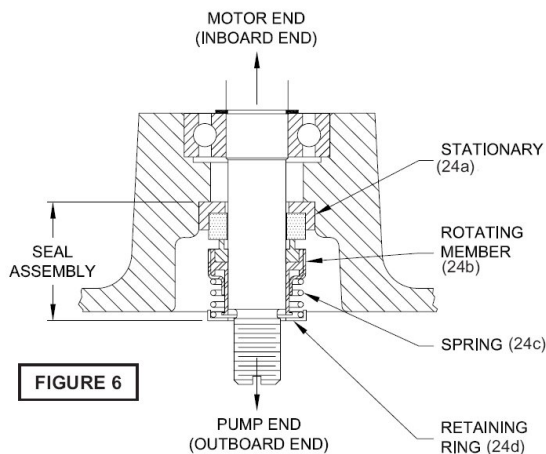
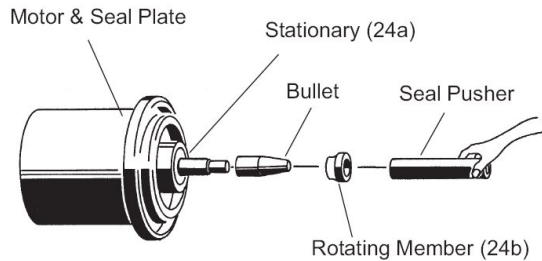

FIGURE 6
FIGURE 9
To expose shaft seal (24) for examination, disassemble volute and impeller as outlined in paragraph F-2.1. If further repair is required, remove retaining ring (24d), spring (24c) and rotating member (24b) from shaft (see Figures 6 & 7). Examine all seal parts and especially contact faces. Inspect seal for signs of wear such as uneven wear pattern on stationary members, chips and scratches on either seal face. **DO NOT** interchange seal components, replace the entire shaft seal (24). If replacing seal, remove stationary (24a) by prying out with flat screwdriver.
Lightly oil (**DO NOT use grease**) shaft, bullet and inner surface of bellows on rotating member (24b) see Figure 9. With lapped surface of rotating member (24b) facing inward toward stationary member, slide rotating member over bullet and onto shaft, using seal pusher, until lapped faces of (24a) and (24b) are together (see Figure 6).